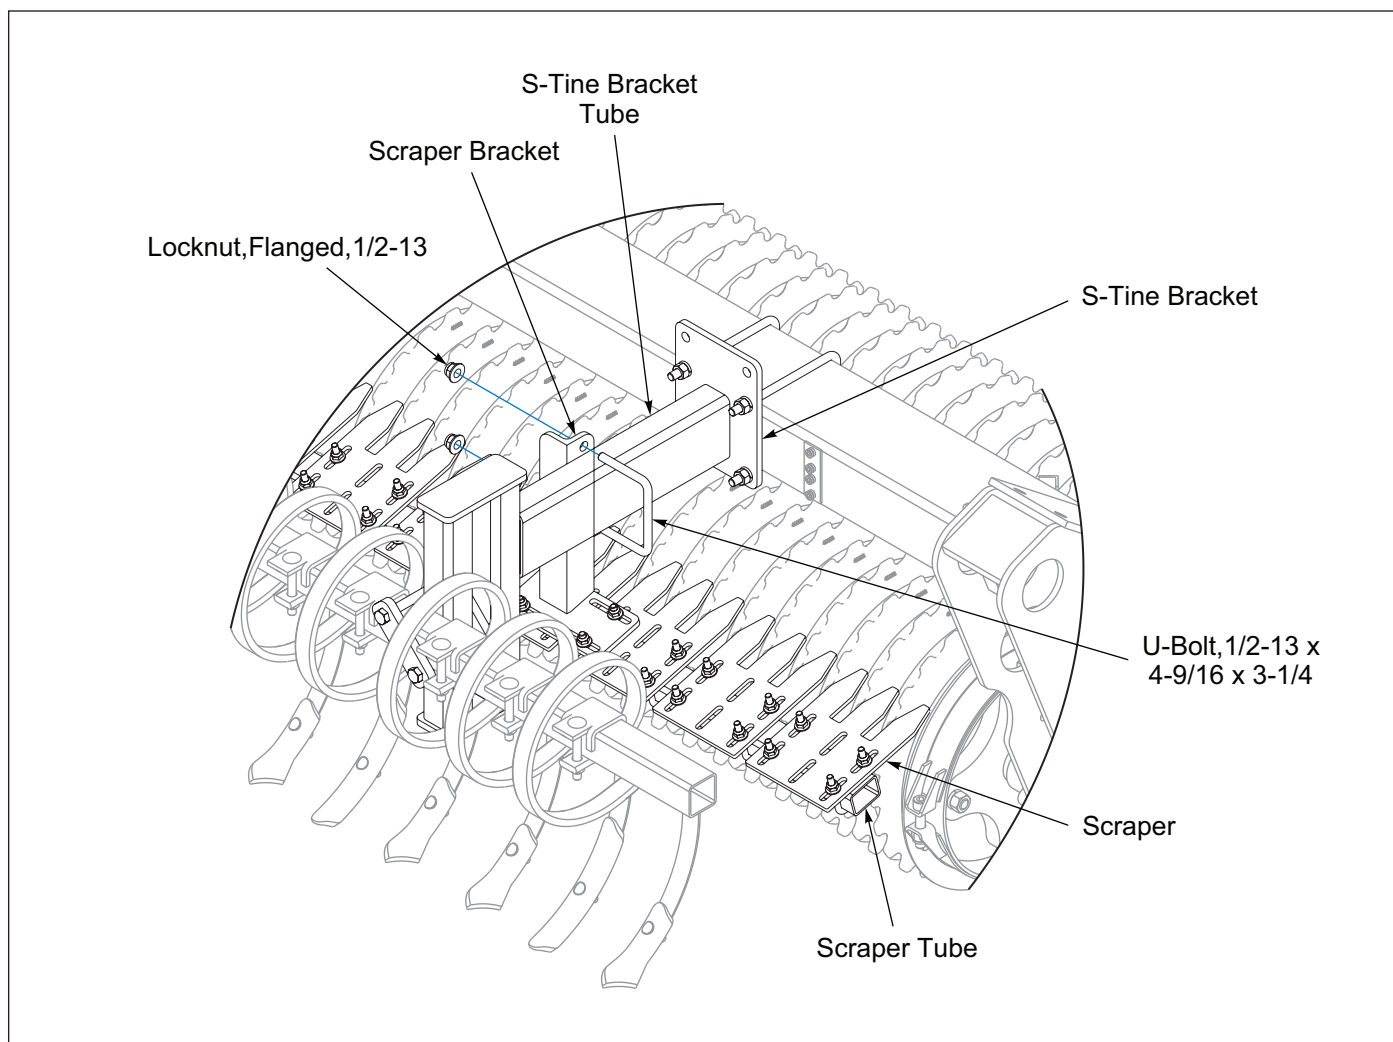

Figure 2-42: Tube Mounted Scrapers with S-Tine Tire Track Remover
S-Tine Tire Track Remover Kit can be used with Scraper Kit. Do Not mount the outer Brackets with the 4-Hole Plate to the front of the Seeder Frame Tube. Attach the outer Scraper Bracket Angle to the Tire Track Remover Kit S-Tine Bracket Tube with a 1/2-13 x 4-9/16 x 3-1/4 U-Bolt and Flange Locknuts. **See Figure 2-42.**
*Scraper Kit can be used with the S-Tine Tire Track Remover. Attach the outer Scraper Bracket Angle to the S-Tine Bracket Tube. Outer Scraper Kit Brackets with the 4-Hole Plate are not used. **See Figure 2-42.** It may be necessary to adjust the Scraper Brackets on the Scraper Assembly for proper positioning of the Scrapers to the Front Roller Wheels.*